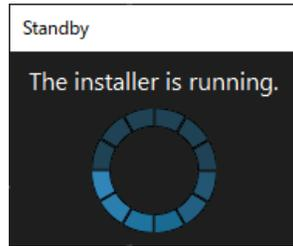

Fig. 1.6 Standby Screen
- 4) The standby screen (Fig. 1.6) is displayed. Wait for the installation to launch.